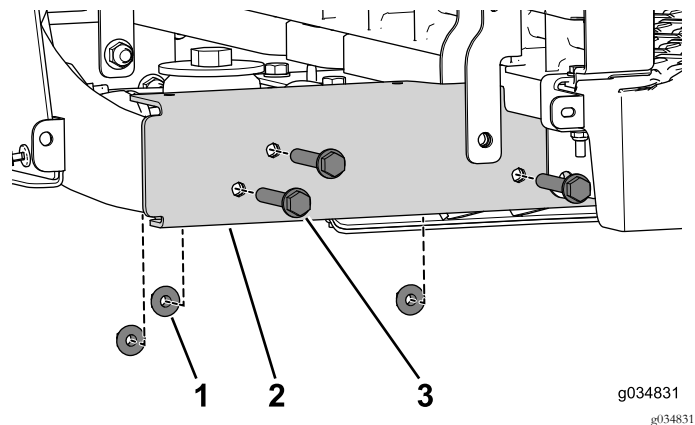

Figure 66
5. Remove the 3 flange bolts (3/8 x 2-1/2 inches) and nuts (Figure 66). Do this on both sides of the machine.